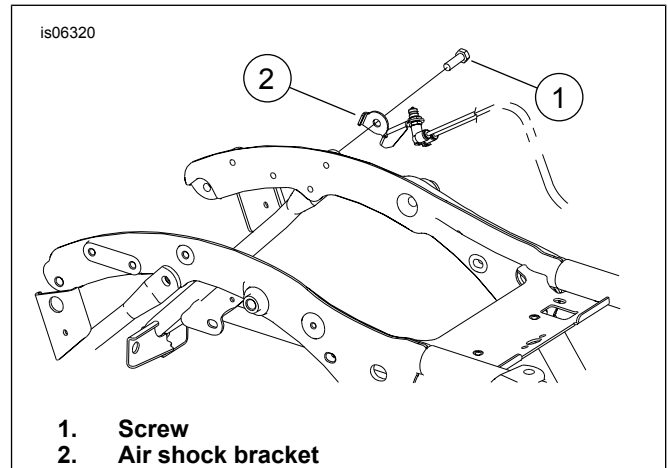

Figure 1. Remove Air Shock Bracket
- See Figure 1. Remove the screw and assembly. Save the air valve bracket assembly if you plan to reuse the air shocks. Install the screw to the frame rail and saddlebag support and tighten to 20.3–27.1 N·m (15–20 ft-lbs). If wire harness is secured to air shock bracket with a cable strap, remove cable strap. Install a new cable strap around wire harness and saddlebag support.